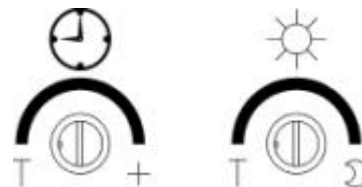

FIGURE 11
(1) TEST MODE
- Turn the Lite control and the Time control anti-clockwise to the edge – the TEST position (FIGURE 11)